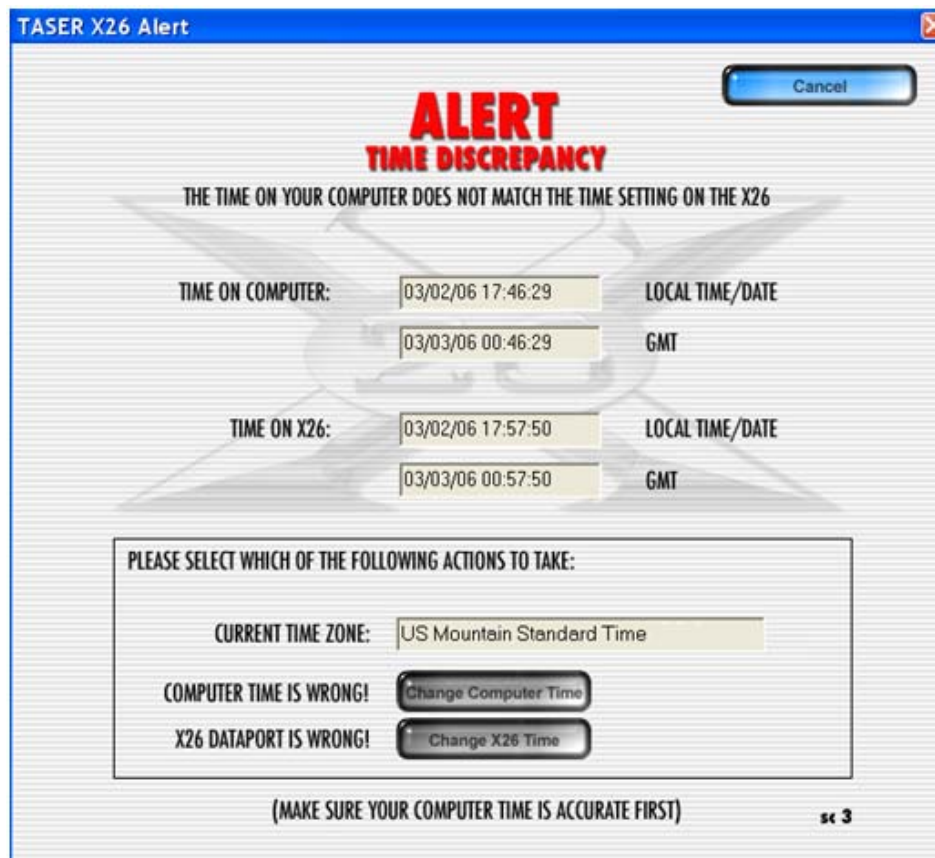

Figure 16
7. If the **ALERT Time Discrepancy** dialog box (Figure 16) appears, the date/time on your computer is not within ± 10 minutes of the device's time. See the *CLOCK OPERATION AND INFORMATION* section on page 14 and then perform the following steps. You will not be able to proceed until resolving the time discrepancy.